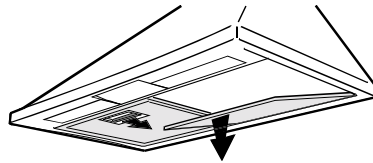

Fig. 4
- Push it towards the back of the unit and then pull it down and out.**Fig. 4.**